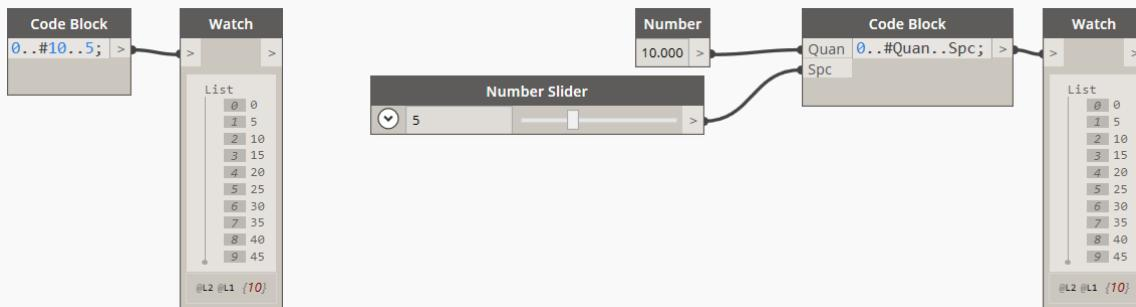

Figure 43
**Note:** The **Range** and **Sequence** nodes provide simple ways to create these lists, but there are many more possibilities if you use Design Script code in a Code Block. The bonus file noted in the “Bonus Materials” topic above gives some examples. If you wanted to replace this Sequence with a Code Block, you would type something like: **1..#10..5**. If you substitute the numbers with text, they will become variables and create input ports. So: **1.#Quan..Spc** would be a sequence from 1 to a variable quantity (represented by: **Quan**) and with a step of **Spc** (see Figure 43).